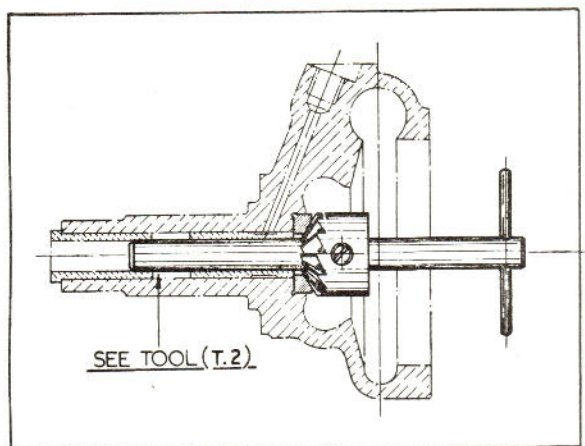

Fig. 18. Use of water pump gland seating cutter.
10. Press gland packing squarely into recess afterwards cutting face with tool shown in Fig. 18 if available. Failure to use the seating cutter may cause some small initial leakage, but this will disappear after a little running.